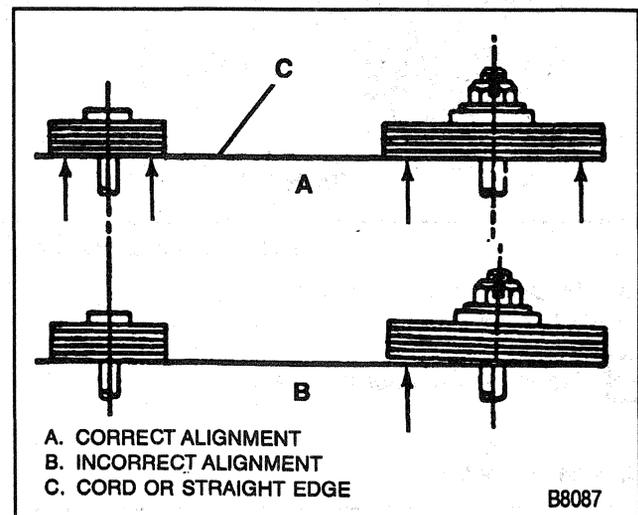

Figure 37—Checking the Pulley Alignment
1. Place a straightedge or position a cord across the two pulleys so they touch at all points (Figure 37).